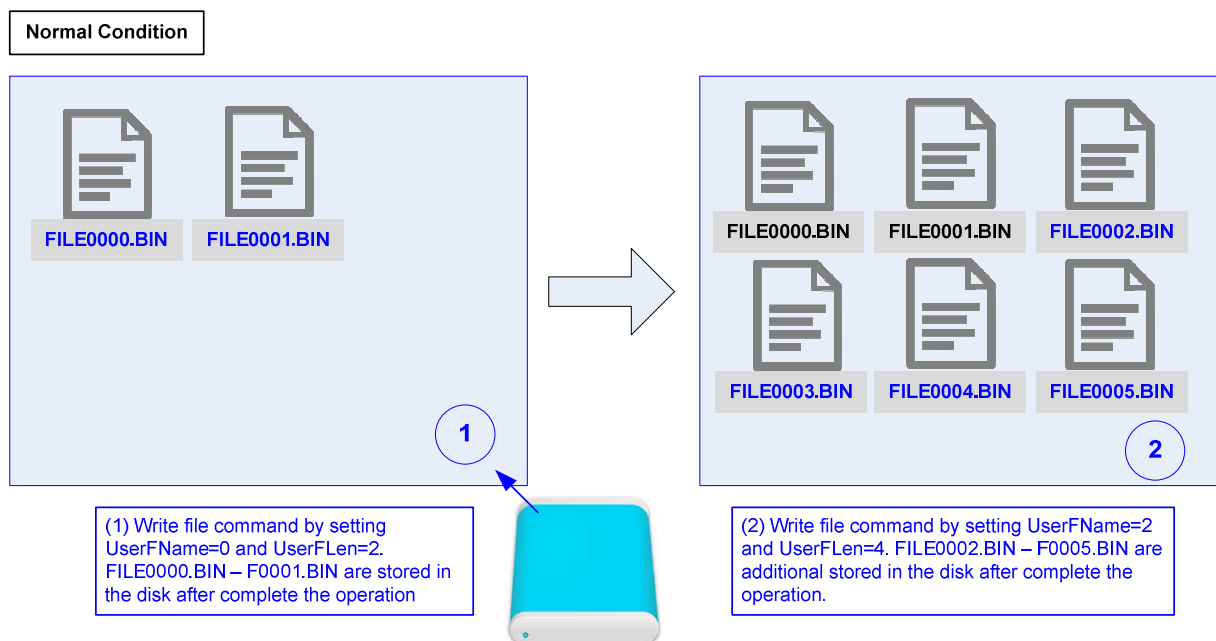

Figure 7: Write file command in normal condition
- 3) For Write file command, UserFName input must be the next value from the latest file name, as shown in Figure 7.